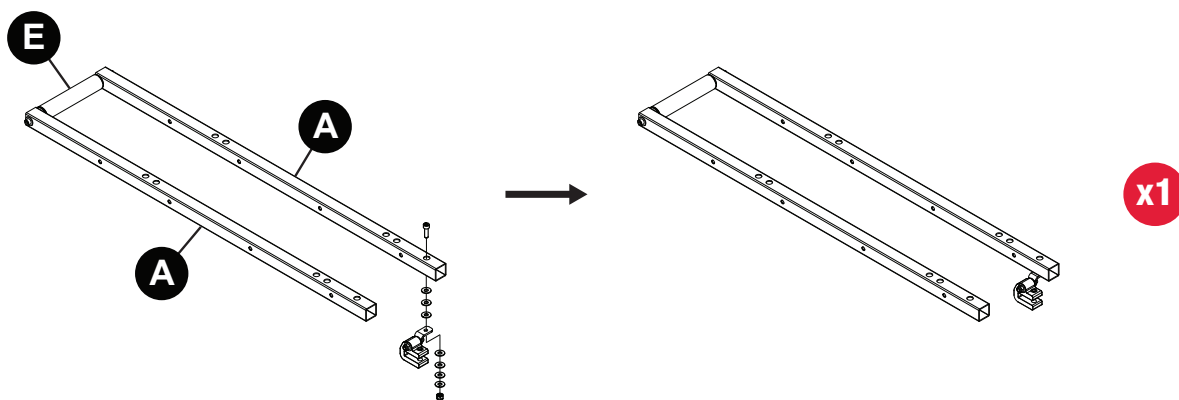

Fig. 44
Position the remaining rear rail clamp between the set of table tubes (A) attached to a small table roller (E), so the rear rail clamp is between the table tubes, the clamp mounting bracket extends under the right table tube (from the perspective of the user of the table saw), and the open end of the clamp extends away from the small table roller (see Fig. 44 for reference).